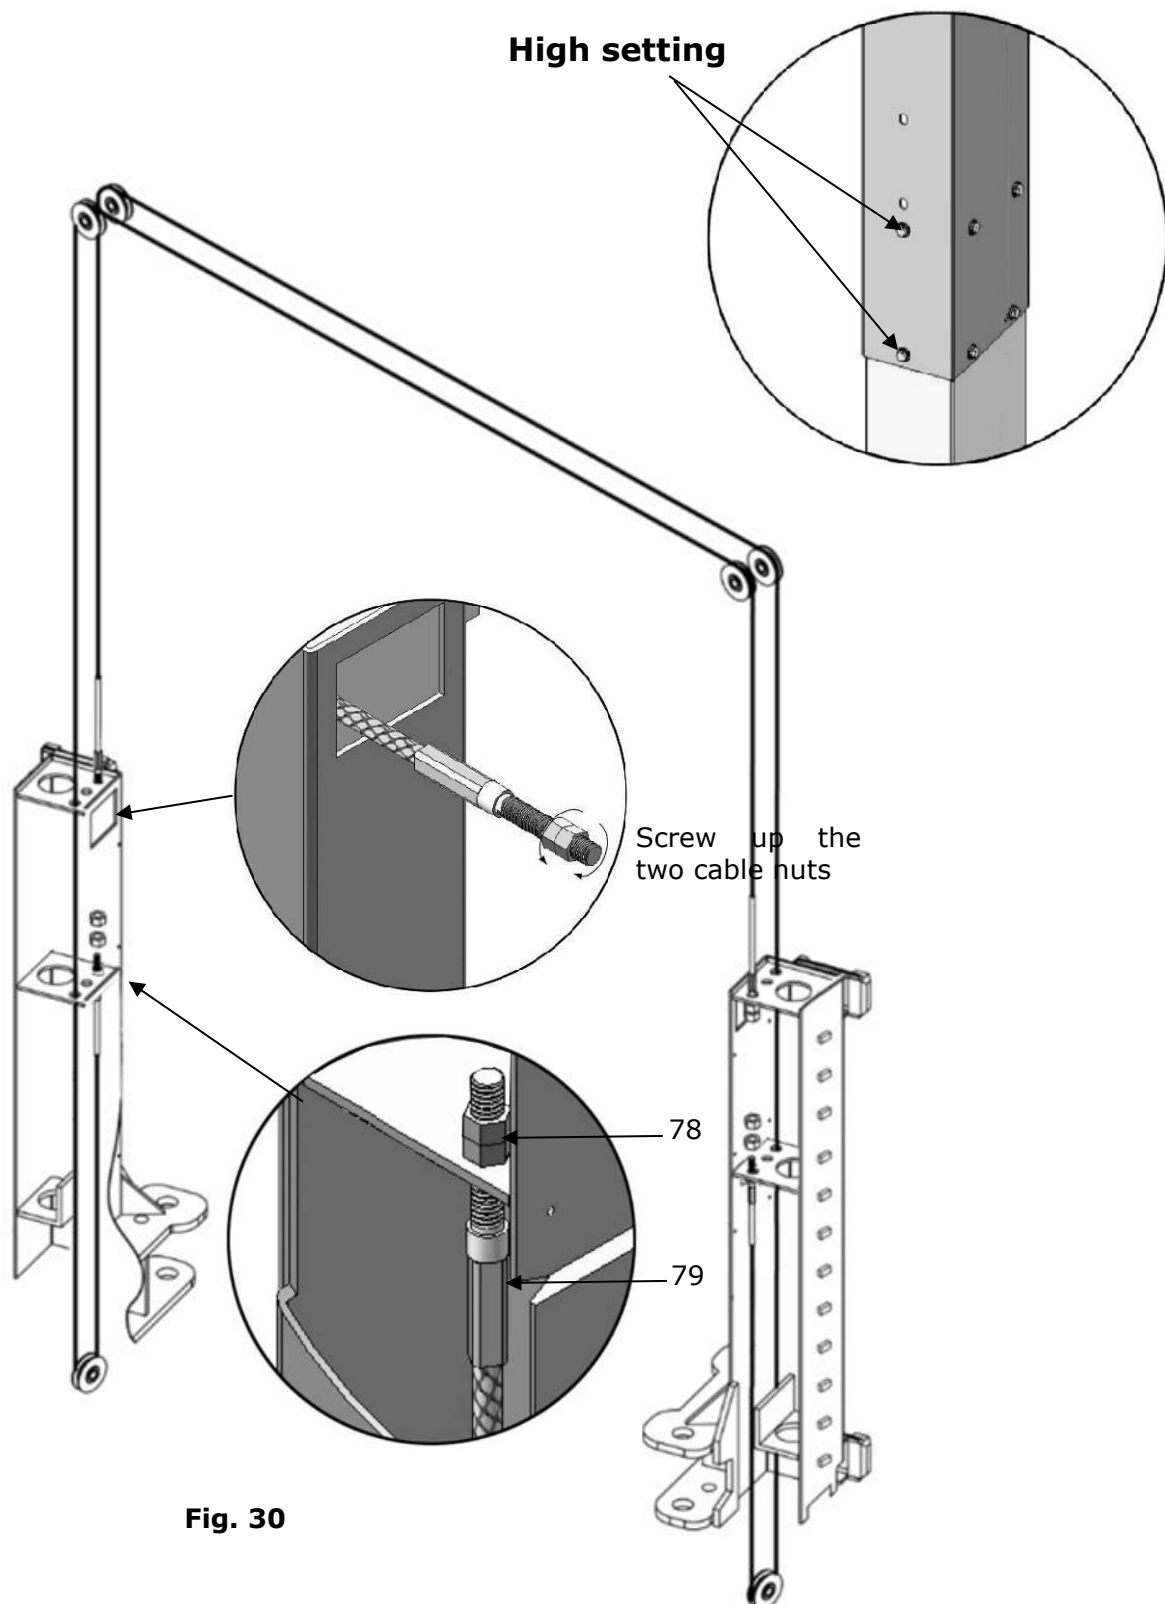

Fig. 30
2.1 OHX-10H cable connection of high setting(see fig. 30).